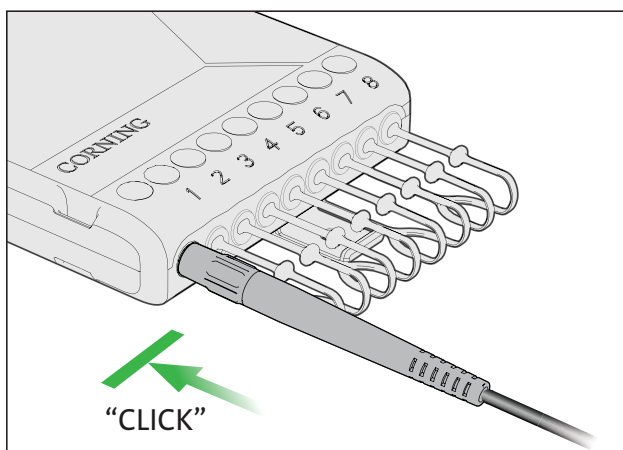

Figure 24
Step 6: Insert the drop connector into the terminal port, until the button clicks and the latch is engaged. (Figure 24)